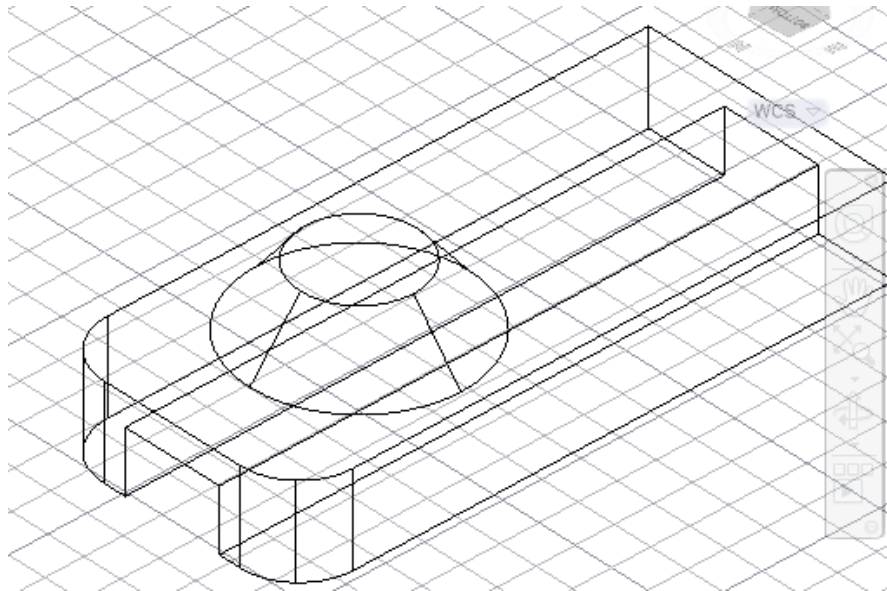

Figure 6.7 – Constructing a conoid
6.2.6 The next step is to draw a cone on the upper plane of the object. For this, select the "Cone" element in the "Ribbon". Using the "Middle" object snap and the "Object tracking" mode, you need to step back a little from the middle of the left horizontal edge of the prism, click on the found point. Next, in the command line, enter the value of the radius of the lower base equal to 28 mm. Click in the command line on the "Radius of the upper base" and set the value -15mm, the height of the cone is 16 (figure 6.7).